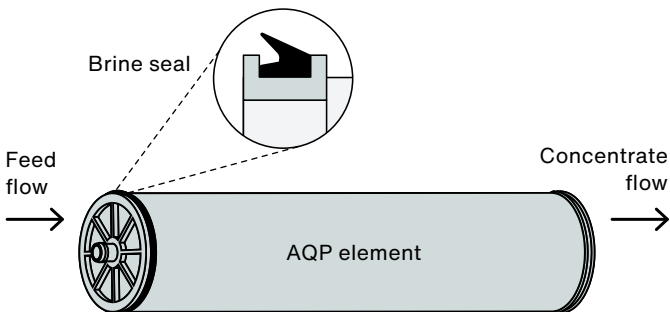

Figure 1: Orientation of brine seal.
1. RO elements are loaded with the brine seal facing the upstream direction (**Figure 1**). It is good practice to load elements from the feed side, so the first element loaded is the lag/tail element and the last element loaded is the lead element. During the process, it is recommended to keep the RO elements in their plastic bags until they are loaded. Make sure to maintain a loading record of each element’s serial number, vessel location, and position.